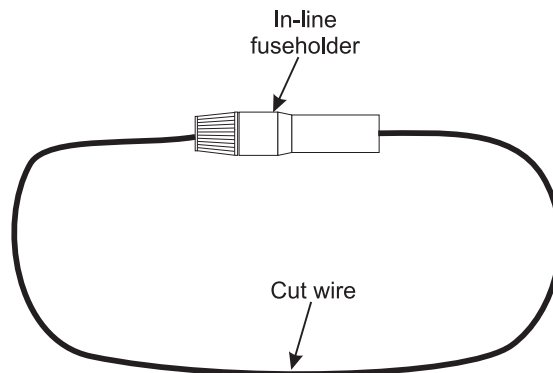

Figure 3.10 Fuse holder
- 6a. Cut the wire on the fuse holder where indicated in Figure 3.10.